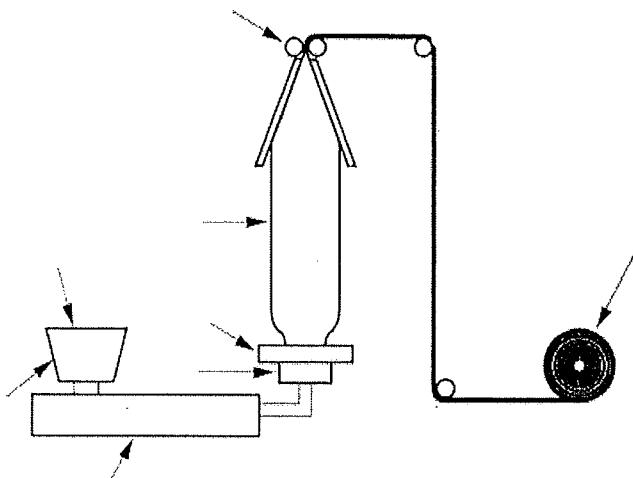

Figure 2 – Blown film extrusion
- (i) Name important parts in blown film extrusion process in Figure 2.
- (iii) Based on your knowledge, with the aid of schematic diagram discuss modification to the process in Figure 2 to produce three multilayer films.